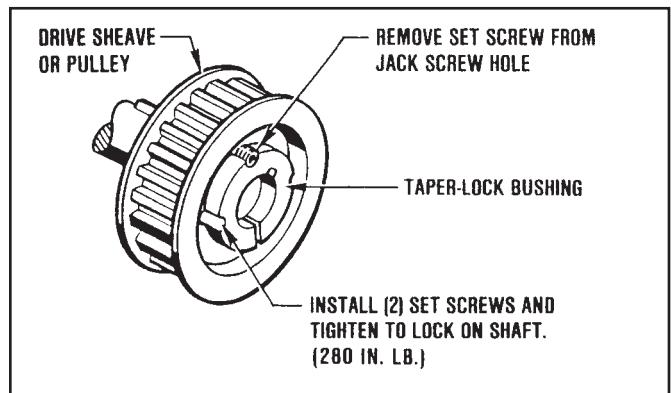

Figure 9.14 - Installing Pulley with Taper Lock Bushing
3. Place assembled Drive Sheave or Pulley onto the Male Input Shaft as close as possible to the Drive Unit to minimize overhang shaft deflection. Tighten (2) Set Screws to lock it on the Input Shaft. (See Figure 9.14)